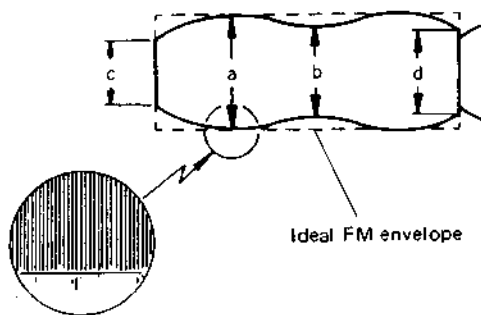

Fig. 2-4-9 FM waveform (max. output)
- 1) Play the alignment tape MH-2 (stairstep signal). Confirm that the FM waveform satisfies the specifications during playback of alignment tape MH-2. Refer to Fig. 2-4-9.